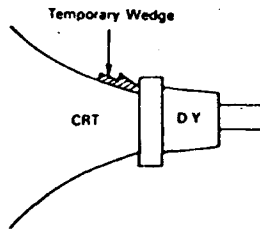

FIGURE 5
4. Move the two Purity Magnets and bring the Magenta belt to the mechanical center of the screen (See Fig. 5) The vertical center position should be set VRS to  $-5/64$ " (-2 MM) as shown in Fig. 6.
10. Insert the temporary wedge as shown in Fig. 5 and adjust the angle of Deflection Yoke.